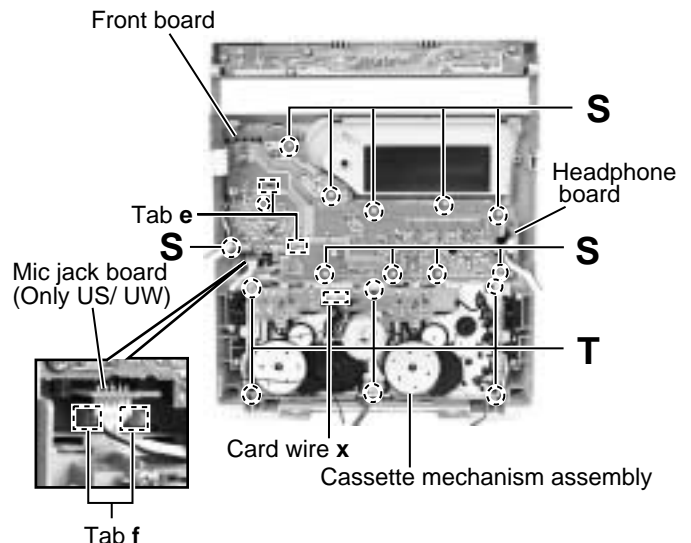

Fig.24
**■Removing the headphone board & mic jack board (See Fig.24)**
**■Removing the cassette mechanism assembly (See Fig.24)**